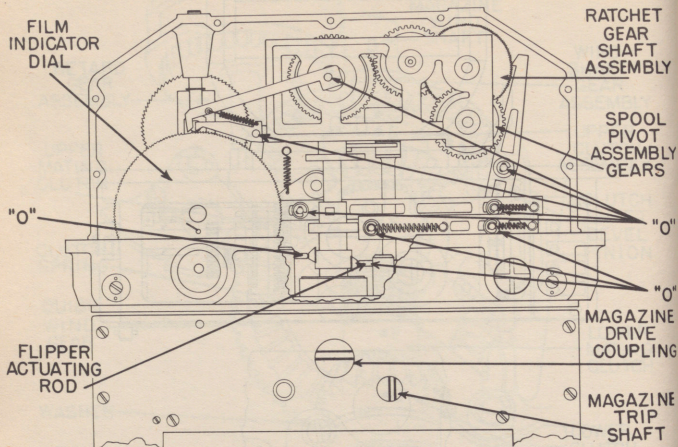
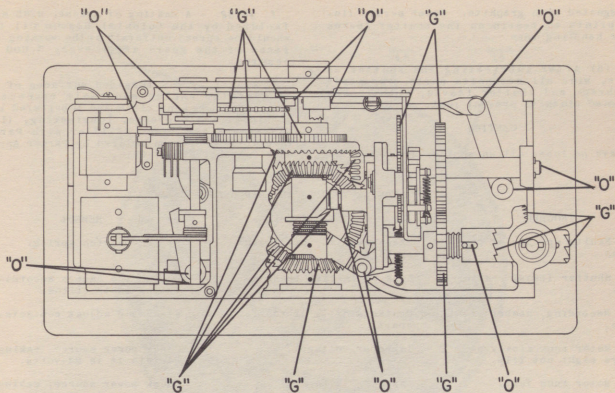

Figure 12 - Magazine - Wound Position
Figure 13 - Case Drive Lubrication
(5) TIMING MAGAZINE MECHANISM (See figure 12).
3. LUBRICATION (See figures 12, 13, 14, 15).
(9) The corrosion preventive compound recommended to be used is Amodis No. 1129, manufactured by the American Oil and Supply Co., Newark, N. J.
*b. ROLL FILM MAGAZINE (See figure 12).*
(1) A thin coating of grease should be applied to the working surfaces of all cams, such as the piston operating cam, magazine wind shaft cam, the cam points which operate the flipper actuating rods and metering control cam, etc.
(2) An exceedingly thin film of grease should be placed on the teeth of all gears.
(3) A drop of oil should be applied to the flipper actuating rods at all bearing points including the rod ends.
(4) A small drop of oil should be applied to all parts indicated.
(5) No lubricant of any kind should be applied to the vacuum piston or cylinder wall. Avoid getting lubricant on piston valve or on the film rollers.
*c. CAMERA DRIVE (See figure 13).* - A thin film of grease should be kept on all cam and gear working surfaces. Oil should be applied every month to the points indicated. Operate the mechanisms to assist in the distribution of the lubricants and wipe off all excess.